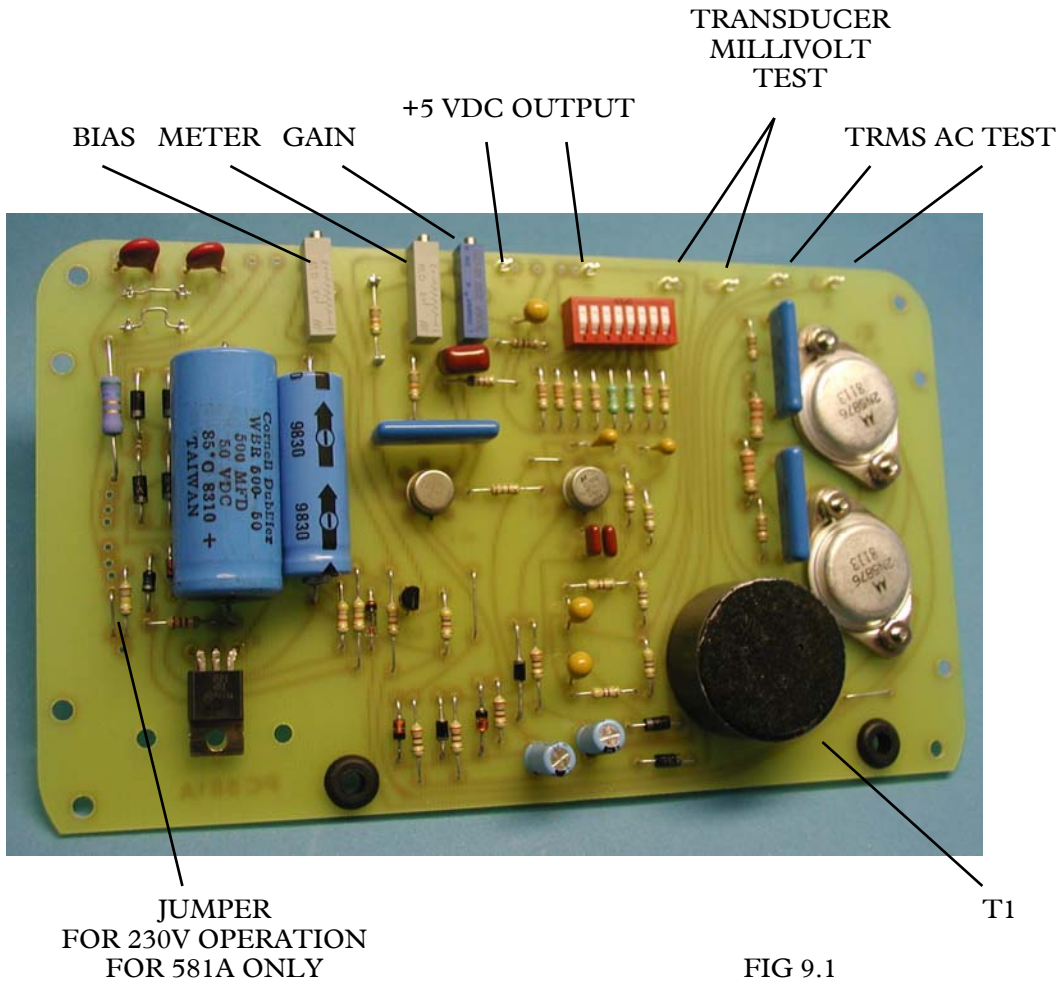

FIG 9.1
9. PC-581A Board Only: Refer to Figure 9.1. Do not change the dipswitch (S2) settings. These settings are factory pre-set and should only need changing if there is a change in the transducer or the units of calibration. Switches 1, 2, & 3 change gain and 5, 6, 7, & 8 change the meter range to engineering units. The number 4 position should remain closed.
If a problem does occur, the transducer heating voltage and the transducer output can be checked (refer to Figure 9.1). To check the heating voltage, the flowmeter must be connected to the transducer and a true R.M.S. voltmeter must be used. With the TRMS voltmeter connected between test points D and A (TRMS AC test), the voltage should be 16.00 TRMS VAC +/- 0.1 VAC (and can be adjusted by the BIAS pot, R6). The transducer output is measured between test points BC and E (millivolt test) using a DC millivolt meter. This output will vary as flow through the transducer varies. At full scale flow for the transducer, the millivolt meter should read between 0.75 and 7 millivolts DC, depending on the individual transducer. This signal is amplified to produce the flowmeter output.